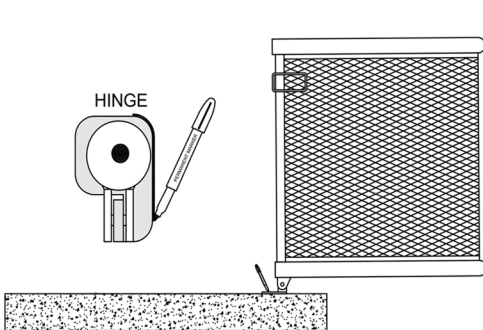

FIG. 2
**Step 5.** Place the enclosure on pad with the hinges close to the device. Mark the location of hinges. Hinge enclosure open and align with the existing hinge markings, then mark locations to be drilled for anchors. Remove enclosure. (See FIG. 2)